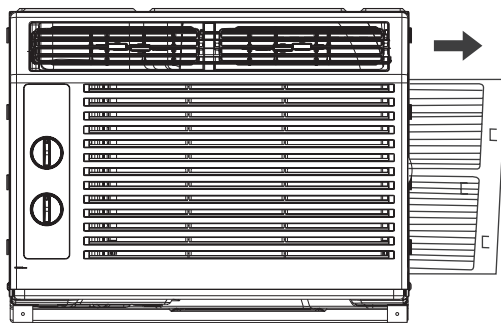

Fig.15
- Take off the power plug, then remove the filter by sliding it out from the front right side of the air conditioner. (See Fig. 15)